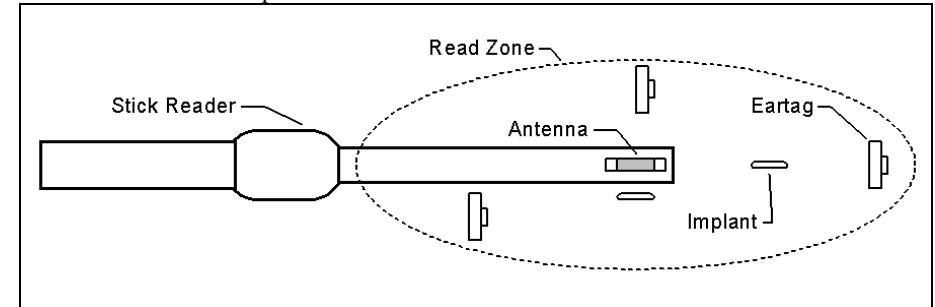

Figure 7 - The Stick Reader read zone
Transponder Orientation - For maximum reading distance, the axes of the transponder and reader antenna coils must be optimally oriented (see Figure 7).
**Step 6** - Next, be sure that your Stick Reader is turned on and press the read button. Bring a tag to within 15 cm (6") of the antenna ,see figure 7 on page 11. Observe the green light briefly flash, indicating a successful read. The HyperTerminal® window, should now have a transponder id code.
Figure 7 illustrates the read zone of the Stick Reader, Tags within this field can be successfully detected and read. Optimum read distance is achieved by aligning the transponder with the stick readers antenna as shown.